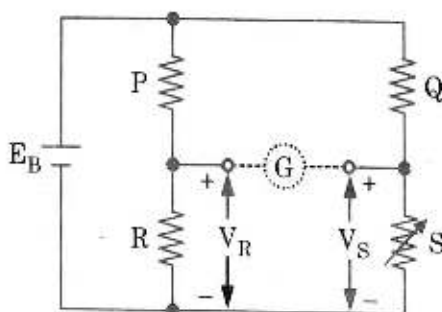

Fig. 3.6.1. Open-circuit voltage at the galvanometer terminals is $(V_R - V_S)$.
3. Galvanometer current depends on the galvanometer resistance and the bridge supply voltage. Fig. 3.6.1 shows the bridge with the galvanometer removed.